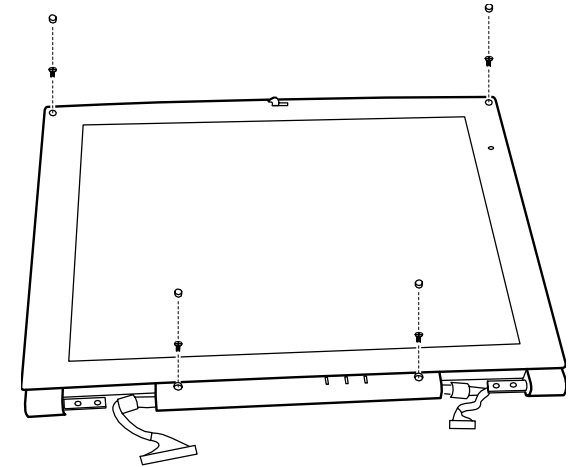

Figure 5-23. Removing the 12.1 Inch LCD Frame
2. Fit the LCD frame back to the housing and replace the four screws and rubber pads. (Refer to Figure 5-23 earlier.)